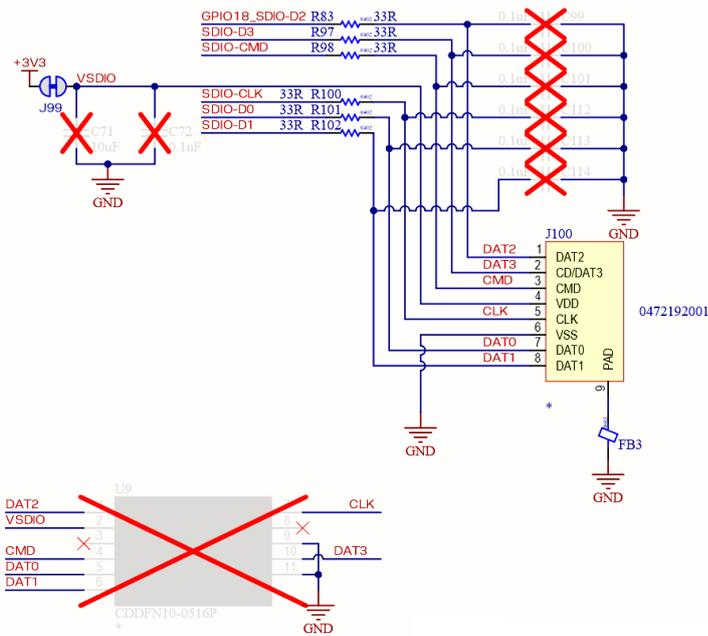

Figure 36: SDIO schematic
**SDIO 3** function is not enabled by default on **J100**. All SDIO signals shown in Table 21 are series terminated with 33 Ω resistors for better signal quality, as shown in Figure 36.